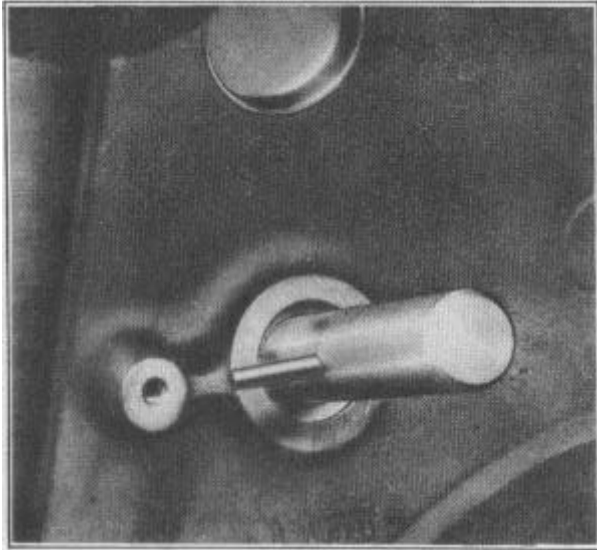

FIGURE 9
3. Insert aligning tool 1-2794 in the distributor shaft hole with aligning pin in line with the distributor mounting screw hole, Figure 9.